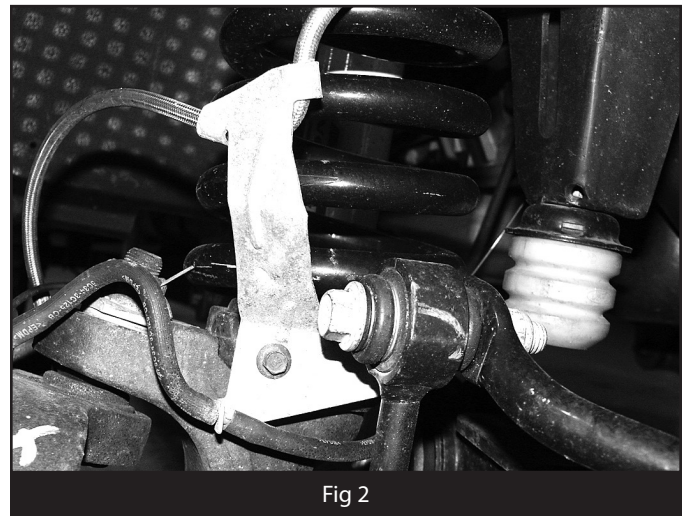

Fig 2
5. Route brakeline through OE brakeline hanger. Attach to axle with OE hardware. (Figure 2)